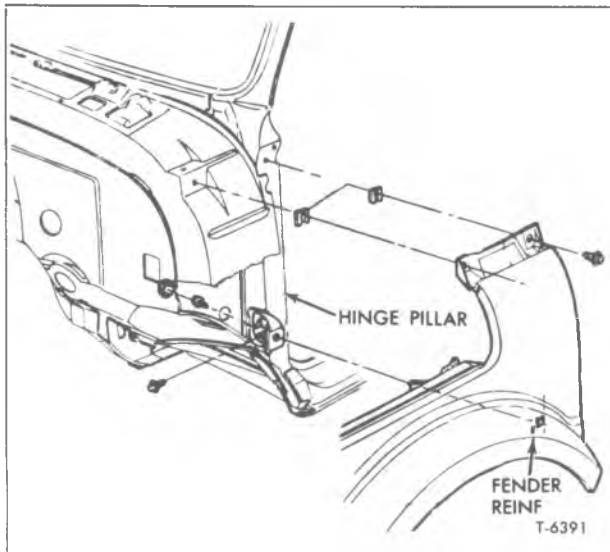

Figure 10—Fender Gusset-To-Cowl Attachment
8. Remove one screw, each side attaching cowl bracket to fender (plastic plug covers) access from inside cab, on cowl (fig. 10). DO NOT remove cowl bracket.
9. Remove two bolts attaching fender upper edge to plenum and hinge pillar (fig. 10).
(Refer to Figures 10, 11, 12, and 13)
NOTE: On cowl models, remove bolt access plugs inside of cowl to remove bolts (fig. 10).